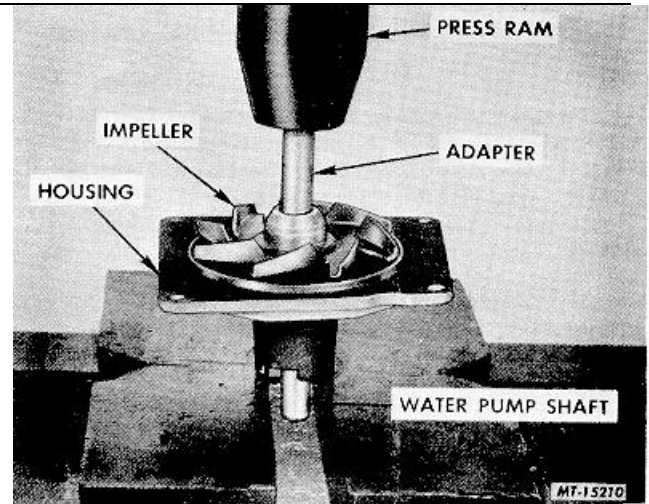

Fig. 132 Pump Shaft and Bearing Removal
4. Support water pump housing on an arbor press and push shaft and bearing out of housing and impeller, Fig. 132.